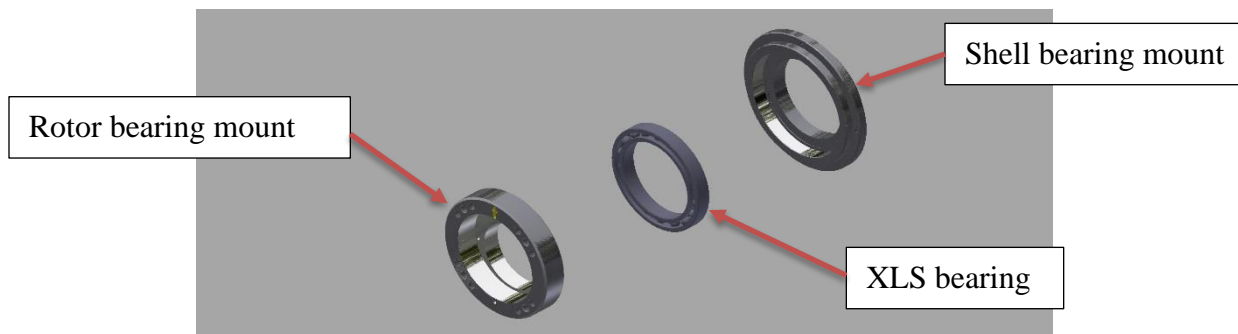

Figure 24
- The bearing can be removed by using a press to separate the rotor bearing mount and the shell bearing mount from the XLS bearing. **Figure 24** shows an exploded view of the rotor bearing mount / shell bearing mount assembly.